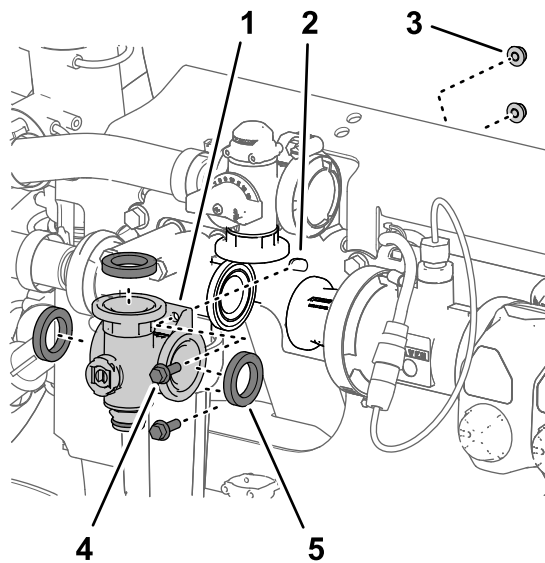

Figure 105
- Remove the 2 flange-head bolts (1/4 x 3/4 inch) and 2 flange locknuts (1/4 inch) that secure the agitation-valve manifold to the valve support (Figure 105).
4. Remove the agitation-valve manifold and gaskets from the machine (Figure 105).